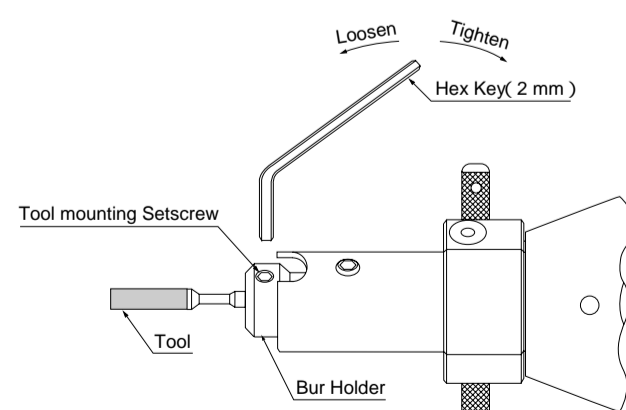

Fig.2
- ① Insert a tool (less than 3.2 mm) into the bur holder and tighten the tool mounting setscrew with the supplied hex key (2 mm). (Fig.2)
- Loosen the tool mounting setscrew with supplied hex key (2 mm), and remove. (Fig.2)